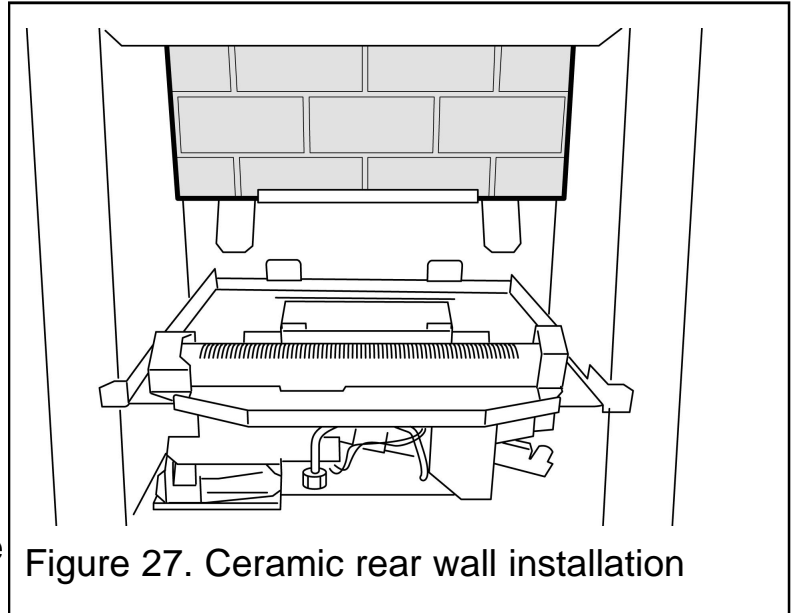

Figure 27. Ceramic rear wall installation
1. Fit the ceramic rear wall inside the "L" bracket on the back face of the burner compartment. Push the ceramic wall flat against the back face of the burner compartment (See figure 27).